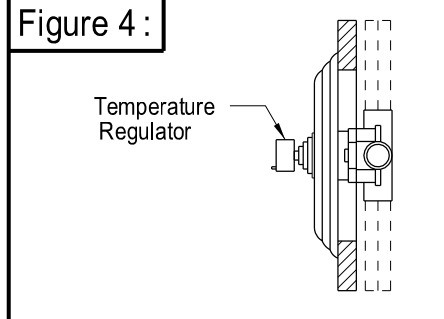

Figure 4 :
6. Use screw driver to open stop valve counterclockwise direction. (Fig.4)
8. Assemble the cap on the valve body by hand. (Fig.4)
Reset the temperature regulator on the position you would like the temperature to be. Turn on the water supply valves to make sure the temperature suits your requirement. When water is running ,check for any leaks. Tighten connections as necessary. Please see Figure 4.